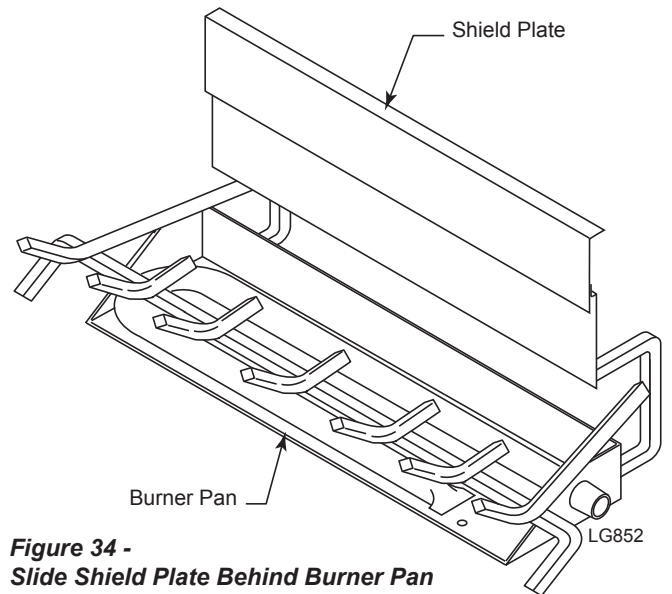

Figure 34 -
1. Slide shield plate behind burner pan. *Figure 34*